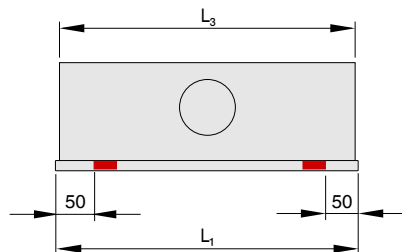

Fig. 16: Diffuser face length = plenum box length
3. Check and position the fixing material in the groove, positioning according to Figure Fig. 13 to Fig. 16.